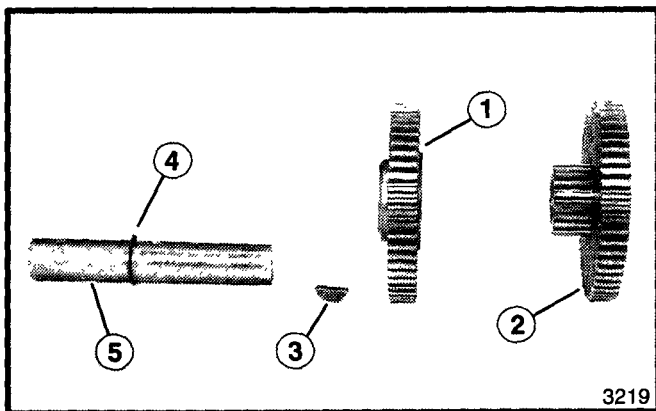

Figure 36. Output Shaft
15. Install key and large single gear (see figure 36) onto shaft (be sure the deep-step side of gear is toward snap ring).